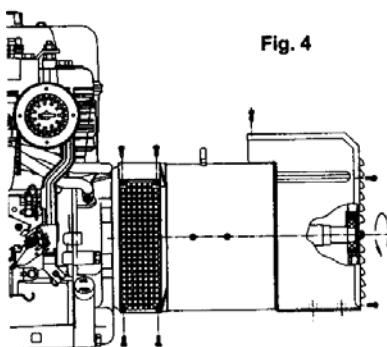

Fig. 4
-) lock the central bolt by applying a tightening torque of $21 \pm 7\%$ Nm to the M8 nut; reassemble the lateral protective nets and the rear closing grid by applying a tightening torque of $3,5 \pm 7\%$ Nm to the M5 screws (figure 4)